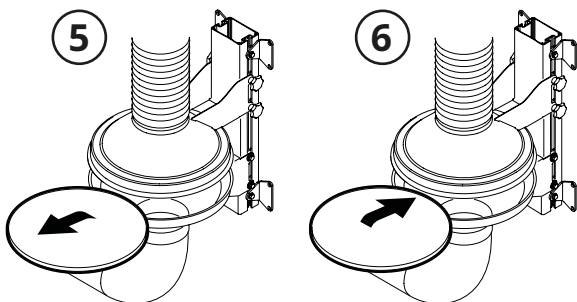

Fig. 17
4. Remove the wire mesh filter from the bottom cone (5, Fig. 17) and dispose of or clean with neutral detergents under lukewarm tap water.
6. Place the new or cleaned wire mesh filter in the bottom cone (6) and seal and connect all the parts that were loosened during disassembly.